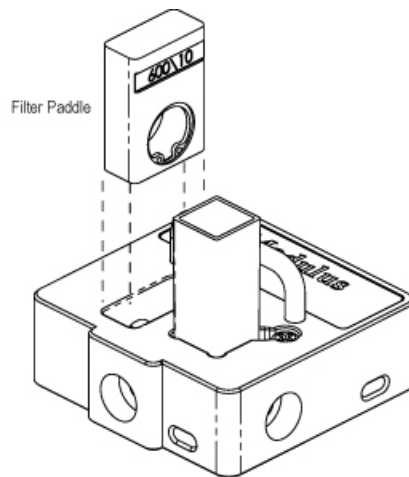

Figure 5.
5. Install the filter paddle that corresponds to the wavelength of absorbance for the assay, see Figure 5.